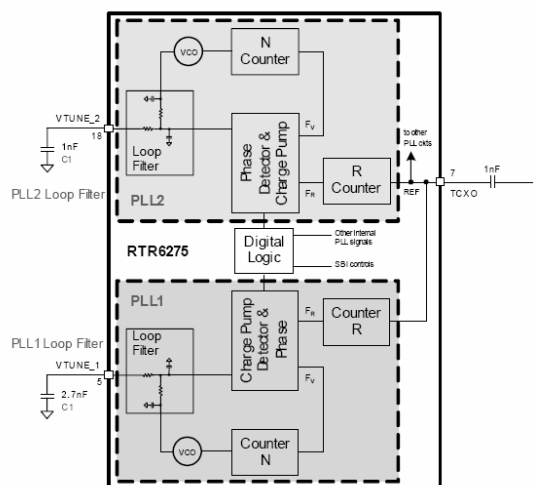
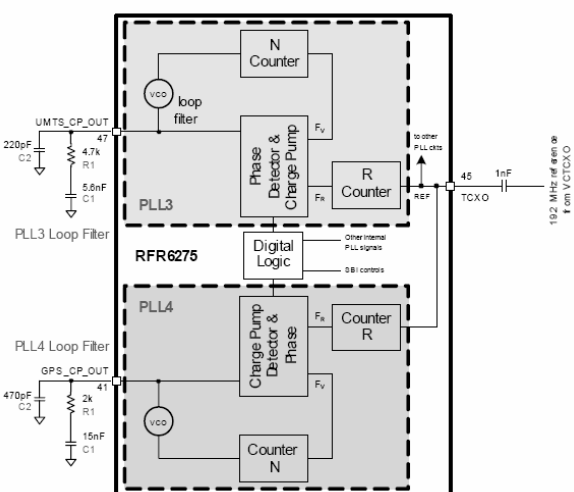

Figure 5-1
Figure 5-2
All LO functions are fully integrated on-chip and do not require user any adjustment. QUALCOMM has established and implemented frequency plans and LO generation schemes that support the radioOne Platform B-series chipset. Only one area requires handset designer attention: the loop filters relating to each PLL. These are addressed in this chapter. All the UMTS Rx, GSM Rx, and GPS PLL circuits are included within the RFICs: reference dividers, phase detectors, charge pumps, feedback dividers, and digital logic. There are four integrated VCOs and PLLs within the Platform B (RFCMOS) chipset as shown in Figure 5-1 and Figure 5-2:
■ Figure 5-1
■ Figure 5-2
QUALCOMM provides a baseline PLL3 design for UMTS Rx. Loop filter component reference designators are shown in Figure 5-2.
The PLL1 within the RTR6275 IC creates the Rx LO for all the GSM receive bands and GSM transmit bands as well as the UMTS transmit bands. The PLL1 of RTR6275 IC (with on-chip VCO) creates the transceiver LO that supports the quad-band GSM receivers and the GSM transmitters as well as the tri-band UMTS transmit outputs. All LO functional blocks are integrated into the RTR6275 IC except for some loop filter capacitors (Figure 5-1). On-chip circuits include reference divider, phase detector, charge pump, VCO, feedback divider, and digital logic status. The off-chip loop filter capacitors allow minimal optimization of PLL performance characteristics (stability, transitory response, settling time, and phase noise) for different applications.